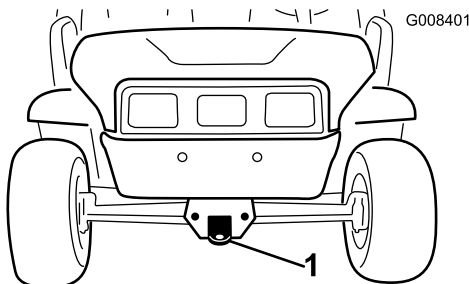
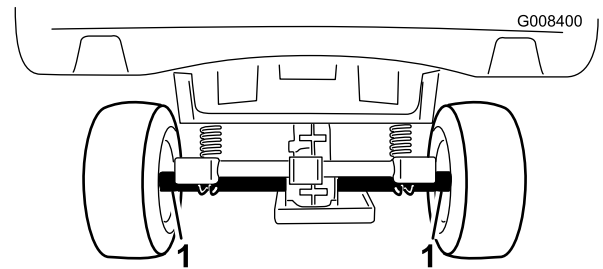

Figure 23
Figure 24
Use a trailer to move the machine a long distance. Make sure that the machine is securely bound to the trailer. Refer to Figure 24 and Figure 23 for the location of the tie-down points on the machine.
2. Affix a tow line to the tongue at the front of the machine's frame (Figure 23).